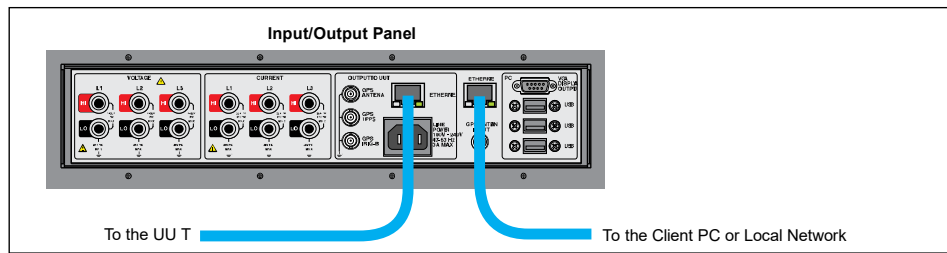

Figure 4-4. The UUT and Server PC Network Cable Connections
Connect the network Ethernet cable from the Calibration System Input/Output Panel to the UUT as follows (refer to Figure 4-4):
1. On the rear panel of the Server PC, put one end of the **Ethernet Cable** into the left most **Ethernet Port** (see Figure 4-4).